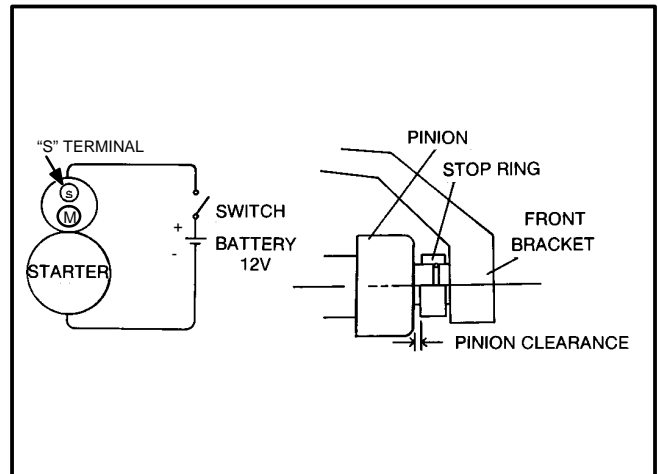

FIGURE 9-4. PINION CLEARANCE ADJUSTMENT
- A. Connect the starter to a battery and switch as shown in Figure 9-4.